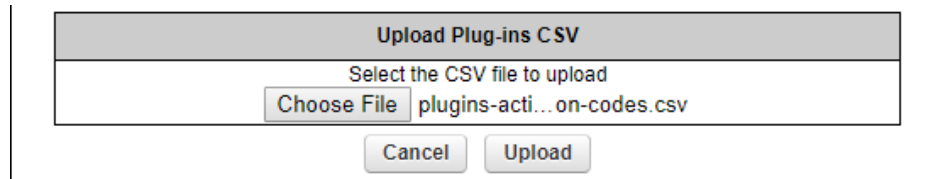

Figure 73. MANAGE PLUG-INS DIALOG (Upload Plug-ins CSV section)
7. Upload the *.CSV file to the unit by clicking the **Choose File** button in the **Upload Plug-ins CSV** section (Figure 73 (page 152)) and following the software prompts.